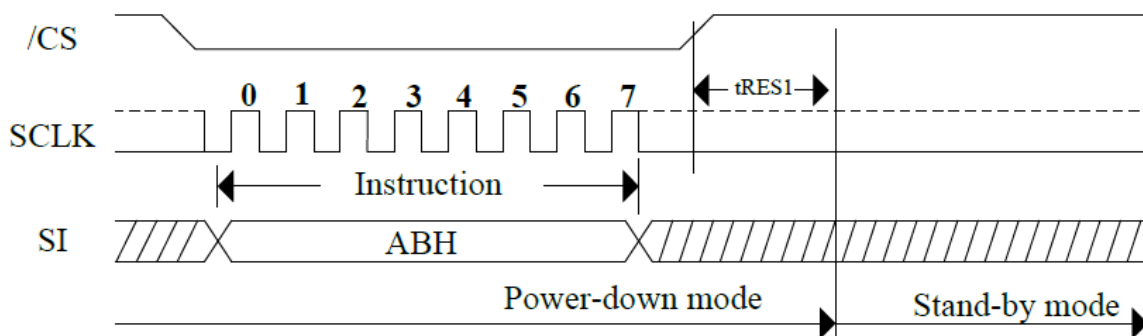

Figure24. Release Power-Down Sequence Diagram
The Release from Power-Down or Device ID instruction is a multi-purpose instruction. It can be used to release the device from the Power-Down state or obtain the devices electronic identification (ID) number. See Figure 24, to release the device from the Power-Down state, the instruction is issued by driving the /CS pin low, shifting the instruction code “ABH” and driving /CS high. Release from Power-Down will take the time duration of t_{RES1} (See AC Characteristics) before the device will resume normal operation and other instruction are accepted. The /CS pin must remain high during the t_{RES1} time duration.